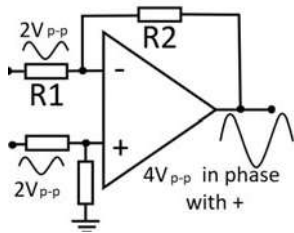

Figure 6. The differential amplifier.
5. The *differential amplifier* is a circuit that amplifies the difference between two input voltages, but suppresses any voltage common to the two inputs. The Figure 6 circuit has two inputs - the output is proportional to the difference between the two voltages.